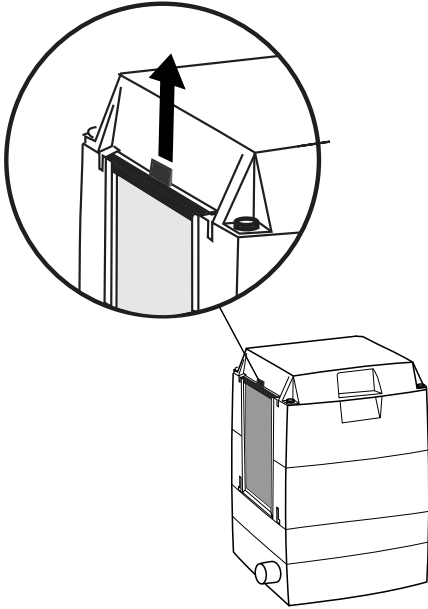

Figure 6.1 Removing the filter cassette
1. Remove the filter cassette by sliding it upwards according to *Figure 6.1*.